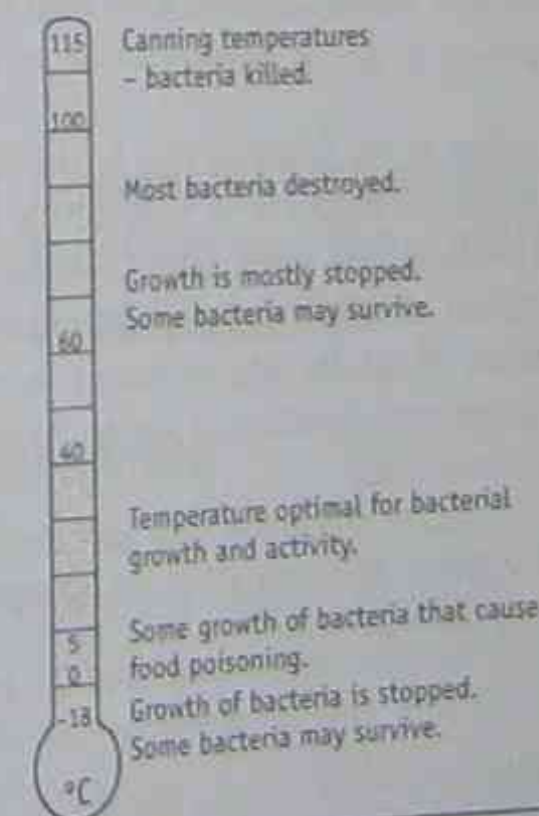

Figure 9.2 Temperature of food and the growth of bacteria.
- **Temperature** — see Figure 9.2 below.